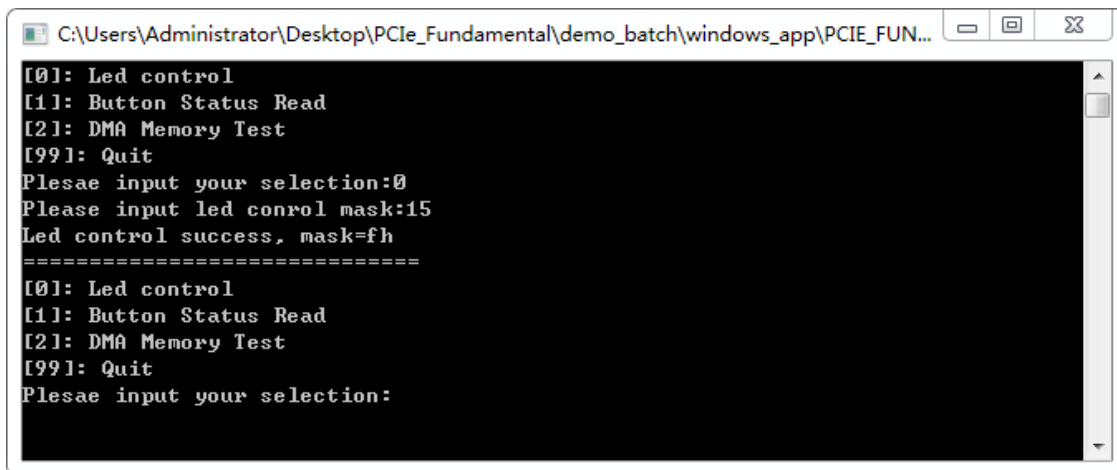

**Figure 4-11 Screenshot of Program Menu**
6. Go to windows\_app folder, execute PCIE\_FUNDMENTAL.exe. A menu will appear as shown in **Figure 4-11**.